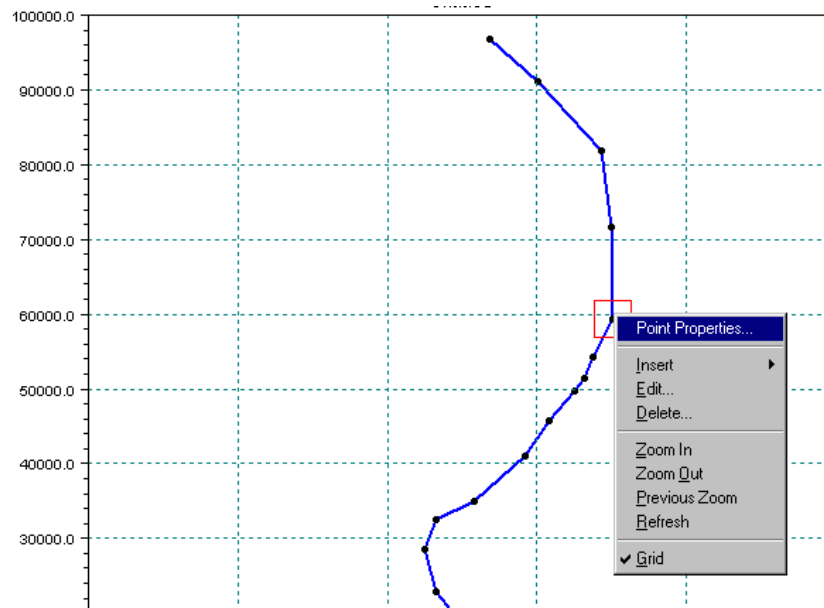
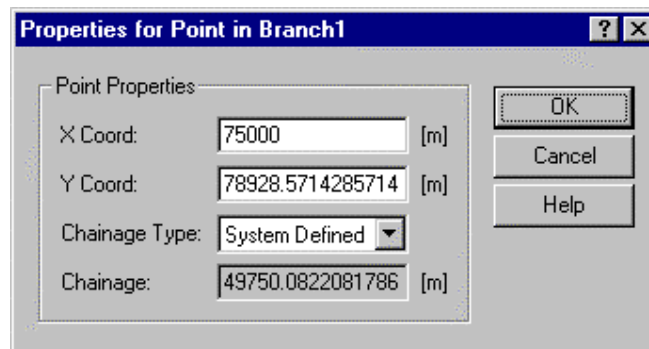

Figure 76: Network editor, Right mouse Pop-up menu
Figure 77: Point properties dialog
- Right click at the point for which the chainage is to be changed and a Pop-Up Menu will be displayed as shown in Figure 76. When selecting the item Point Properties in the Pop-Up Menu the following dialog will show up (See Figure 77). You can then set the chainage manually by setting the chainage type to User Defined and then entering the desired chainage value. When clicking the OK button the chainages in all remaining points within the river branch will be recalculated accordingly.